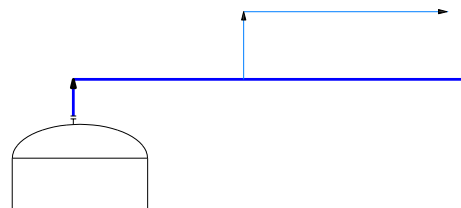

Figure 2-60 Drawing the secondary line connecting the previous line
8. Invoke the **Secondary Line Segment** tool and create a line, as shown in Figure 2-60.